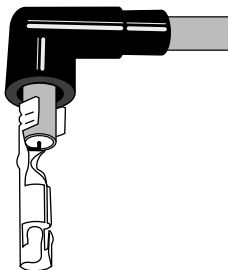
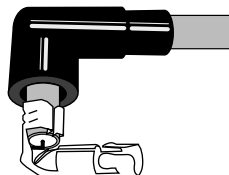

Figure 4
Figure 6
8. Place the proper terminal over the spark plug wire and conductor. Use a spark plug wire crimp tool to crimp the terminal in place. (See Figure 4 & 5) If using the brass terminal, make a 90-degree bend. (See Figure 6)